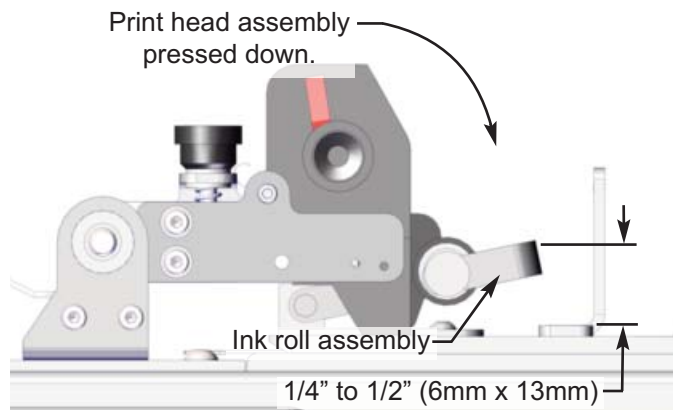

Figure 3.17
Q. INK ROLL ARM POSITION: Figure 3.17 - 3.20